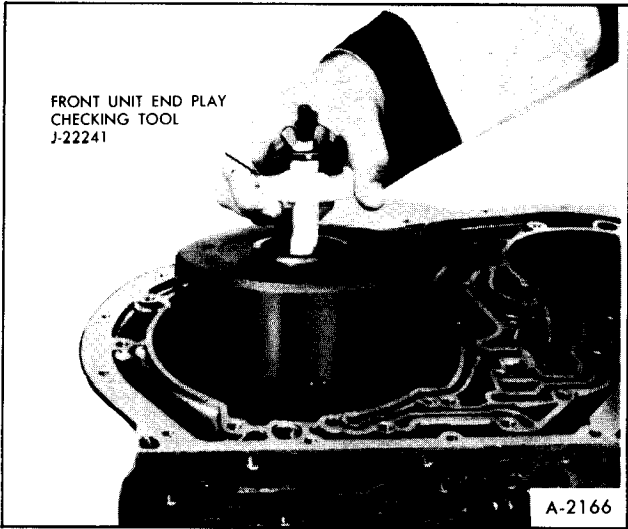

Figure 49–Removing Forward Clutch
1. Remove forward clutch assembly from transmission, Figure 49, by installing Front End Play Checking Tool, J-22241, into forward clutch and lifting forward clutch straight out.